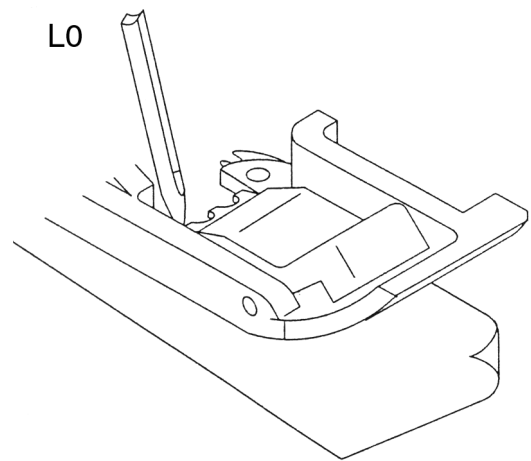

Fig. 16
- Place a piece of paper under the presser foot (fig. 16).